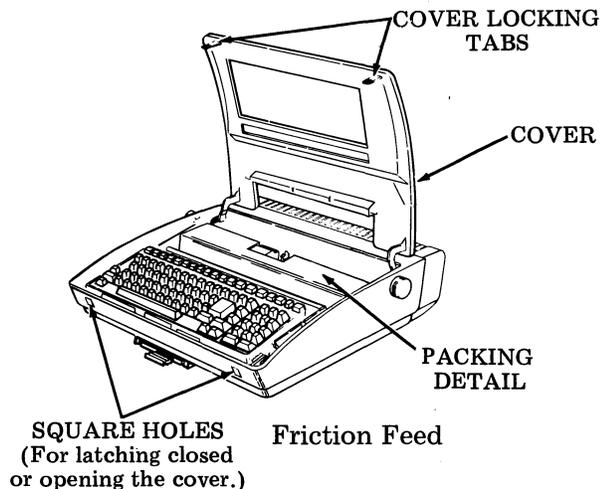

Fig. 2--Packing Detail
3.04 Unpack the carton referring to instructions on the container. Remove tape securing the cover and paper separator to the housing (Fig. 2). If tractor feed, remove tape from tractor mechanism and roller bail.
3.05 Depress the cover locking tabs on the lower front of the cabinet and lift the cover. Remove the packing detail securing the print head and the ribbon in place (Fig. 2).